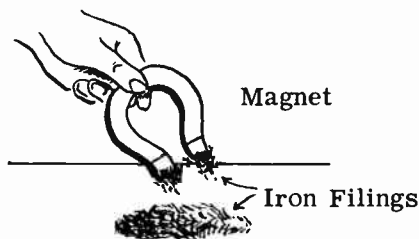

FIG. 3-1. MAGNET'S ATTRACTIVE POWER.
**THE MAGNET.** We are all familiar with the effects of magnetism. A horseshoe magnet will attract iron filings. A powerful crane electromagnet will pick up heavy pieces of iron. A compass needle will point to the North pole. A magnet, therefore, is any object which has the ability of attracting to itself magnetic materials such as iron or steel. Fig. 3-1 shows a horseshoe magnet attracting particles of iron filings.